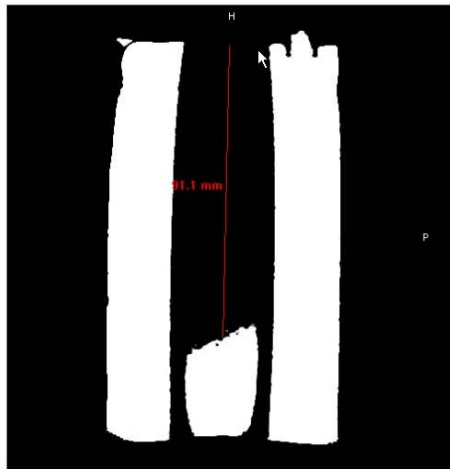

Figure 4: Example measurement for the FSE Fat Suppression test
4. In slice number 6, measure and record the distance of proper fat suppression along the center of the phantom (refer to Figure 4).